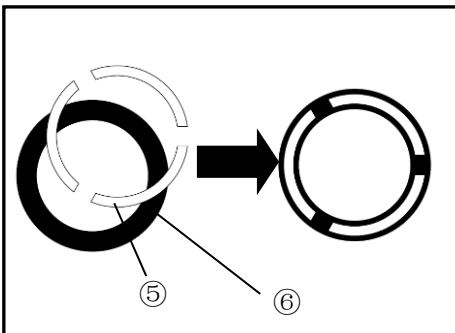

Fig.35
7.2.2 Centering Diaphragm (Fig.35)